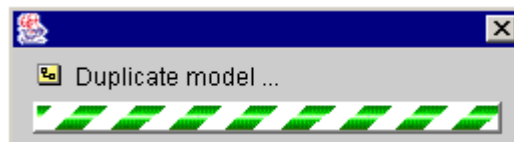

Figure 113 : Bar graph during duplication
- ♦ A bar graph (Figure 113) indicates that the equipment is currently duplicated; a copy of the model is then created with the extension *_copy*.